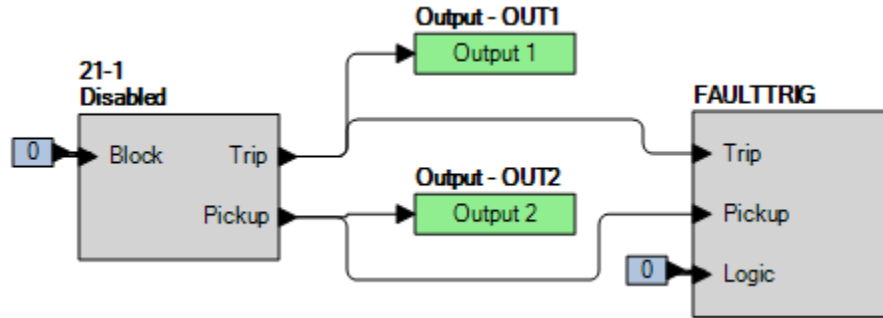

Figure 80-1. BESTlogicPlus Settings
Step 2: Use BESTCOMSPPlus to configure the BESTlogicPlus programmable logic shown in Figure 80-1.
- Step 4: Prepare to monitor the 21-1 function operation. Operation can be verified by monitoring OUT1 (see Figure 80-1).